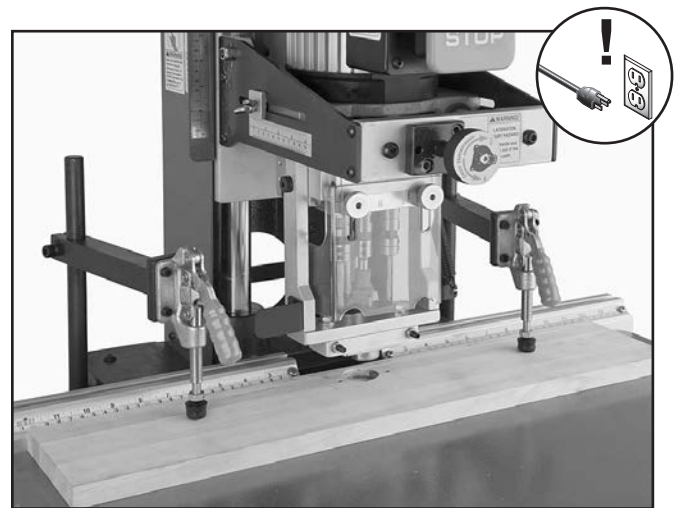

Figure 42. Swing arm positioned over cup hole.
3. Lower the swing arm so the hinge is directly above the cup hole, as shown in **Figure 42**.